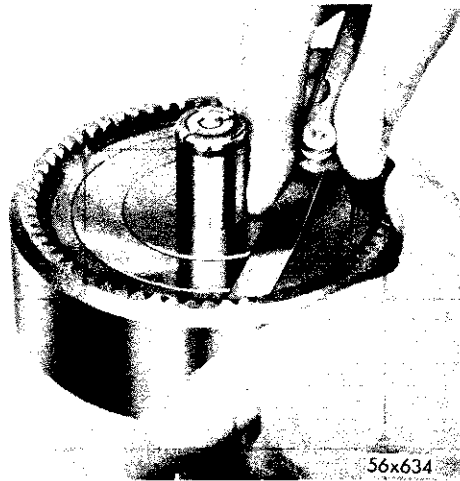

Fig. 103—Checking Clearance between Kickdown Annulus Gear Snap Ring and Intermediate Shaft Assembly
To aid in the assembly of Unit No. 1, use the propeller shaft flange and brake drum assembly which was removed from the transmission. With output shaft assembly (J) in the upright position, lubricate output shaft thrust washer (D) with Automatic Transmission Fluid (Type A) and place into position in housing. Place kickdown annulus gear (I) in position on intermediate shaft assembly (C) and install snap ring (H) (select fit). Using a feeler gauge, check the clearance under the kickdown annulus gear snap ring (Fig. 103). Clearance limits are as close to zero as possible. Snap rings are available in the following two thickness: